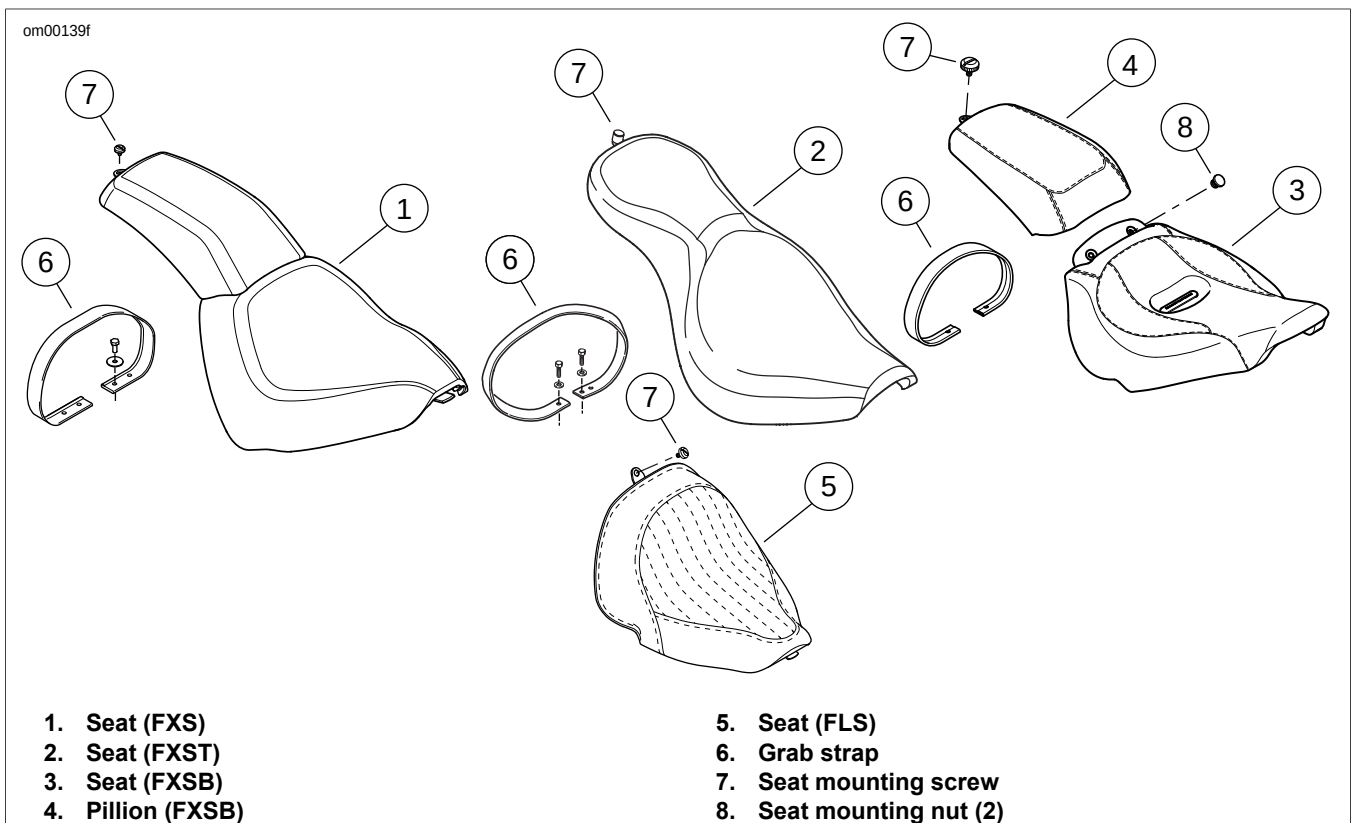

Figure 2-131. Seat: FXS/FXST/FXSB/FLS
1. See Figure 2-131. Remove seat mounting screw from top of rear fender.